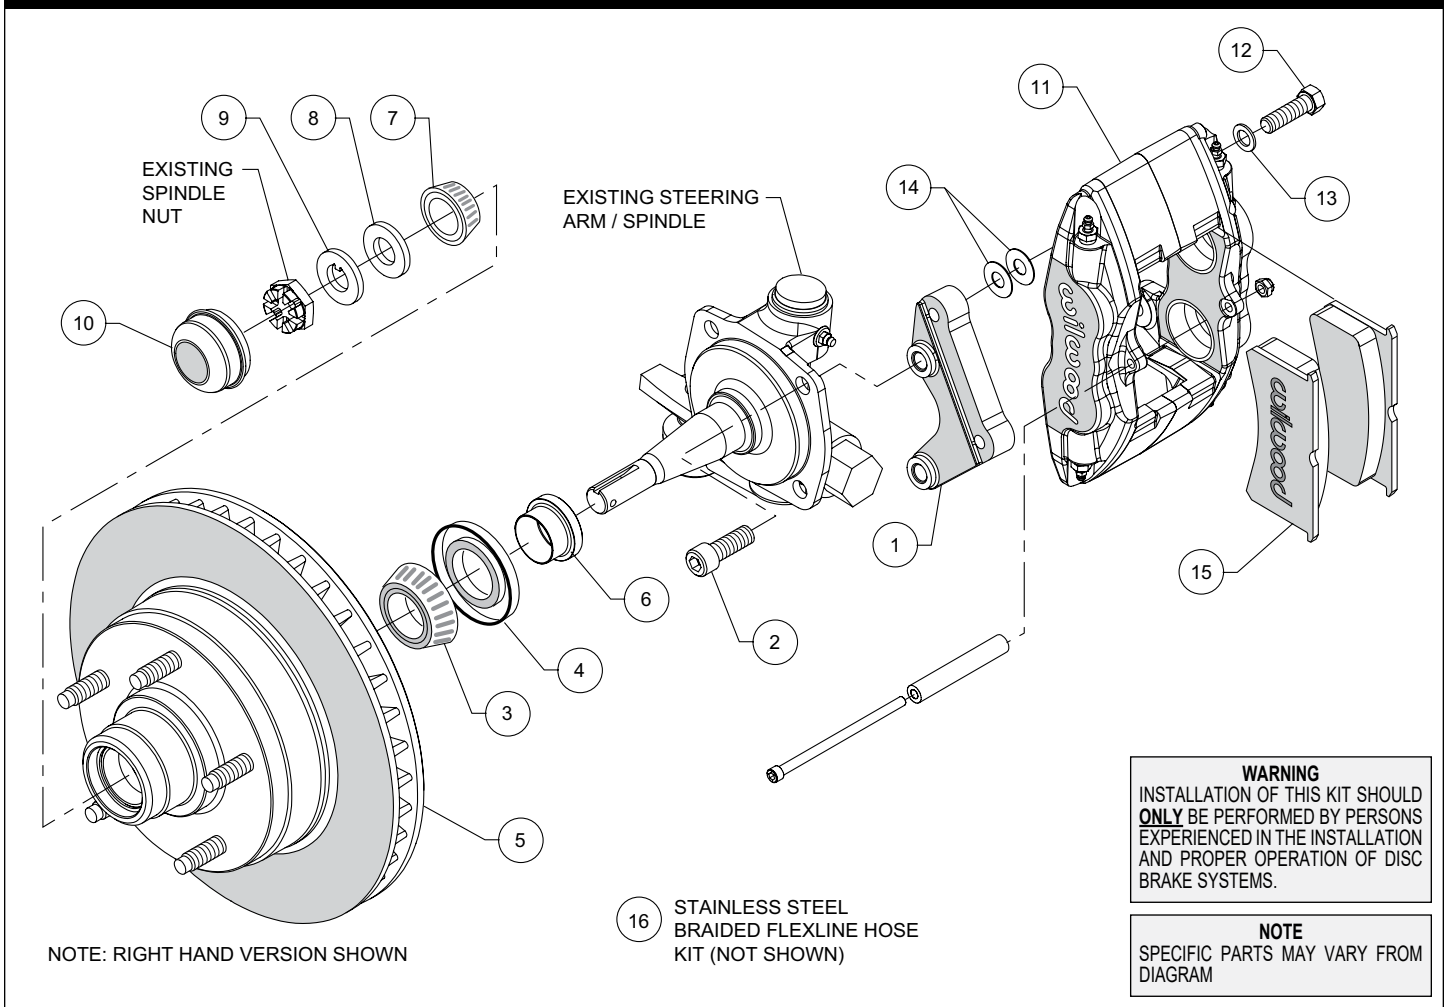

Figure 1. Typical Installation Configuration
NOTE: Numbers in parenthesis refer to the parts list and Figure 1 on the preceding pages.
- Orient the caliper mount bracket (1) as shown in Figure 1 and Photo 1, and install using bolts (2). Temporarily tighten the mounting bolts. **NOTE:** The bracket must fit squarely against the mount bosses on the upright. Inspect for interference from casting irregularities, machining ridges, burrs, etc. Remove bolts one at a time, apply red *Loctite*® 271 to the threads and torque to 90 ft-lb.
- Slide the bearing spacer (6) onto the spindle. Ensure the larger O.D. goes against the spindle face, Figure 1 and Photo 3.
- Pack the small outer bearing cone (7) with high temperature disc brake bearing grease and install into hub/rotor (5). Slide the hub/rotor onto the spindle. Slide spindle spacer (8) onto the spindle. Secure using spindle washer (9) and OEM spindle nut, Photo 4. Bearing adjustment: Tighten the nut while turning the hub/rotor. When there is a slight bind on the bearings, they are seated correctly. Back the nut off about 1/6 to 1/4 of a turn, or sufficiently to allow .001" to .007" end play. **WARNING:** Failure to back off adjusting nut could cause bearing to run hot and be damaged, which could cause the wheel to lock or come off. Install a new cotter pin.
- Press the dust cap (10) into the hub/rotor (5).
- Mount the caliper (11) onto the caliper mounting bracket (1) using bolts (12) and washers (13), as shown in Figure 1. Initially place two .030" thick shims (14) on each bolt between the caliper and the bracket, Photo 5. Temporarily tighten the mounting bolts and view the rotor (5) through the top opening of the caliper. The rotor should be centered in the caliper, Photo 6. If not, adjust by adding or subtracting shims between the bracket and the caliper. Always use the same amount of shims on each of the two mounting bolts. Once the caliper alignment is correct, remove the bolts one at a time, apply red *Loctite*® 271 to bolt threads, and torque to 60 ft-lb.